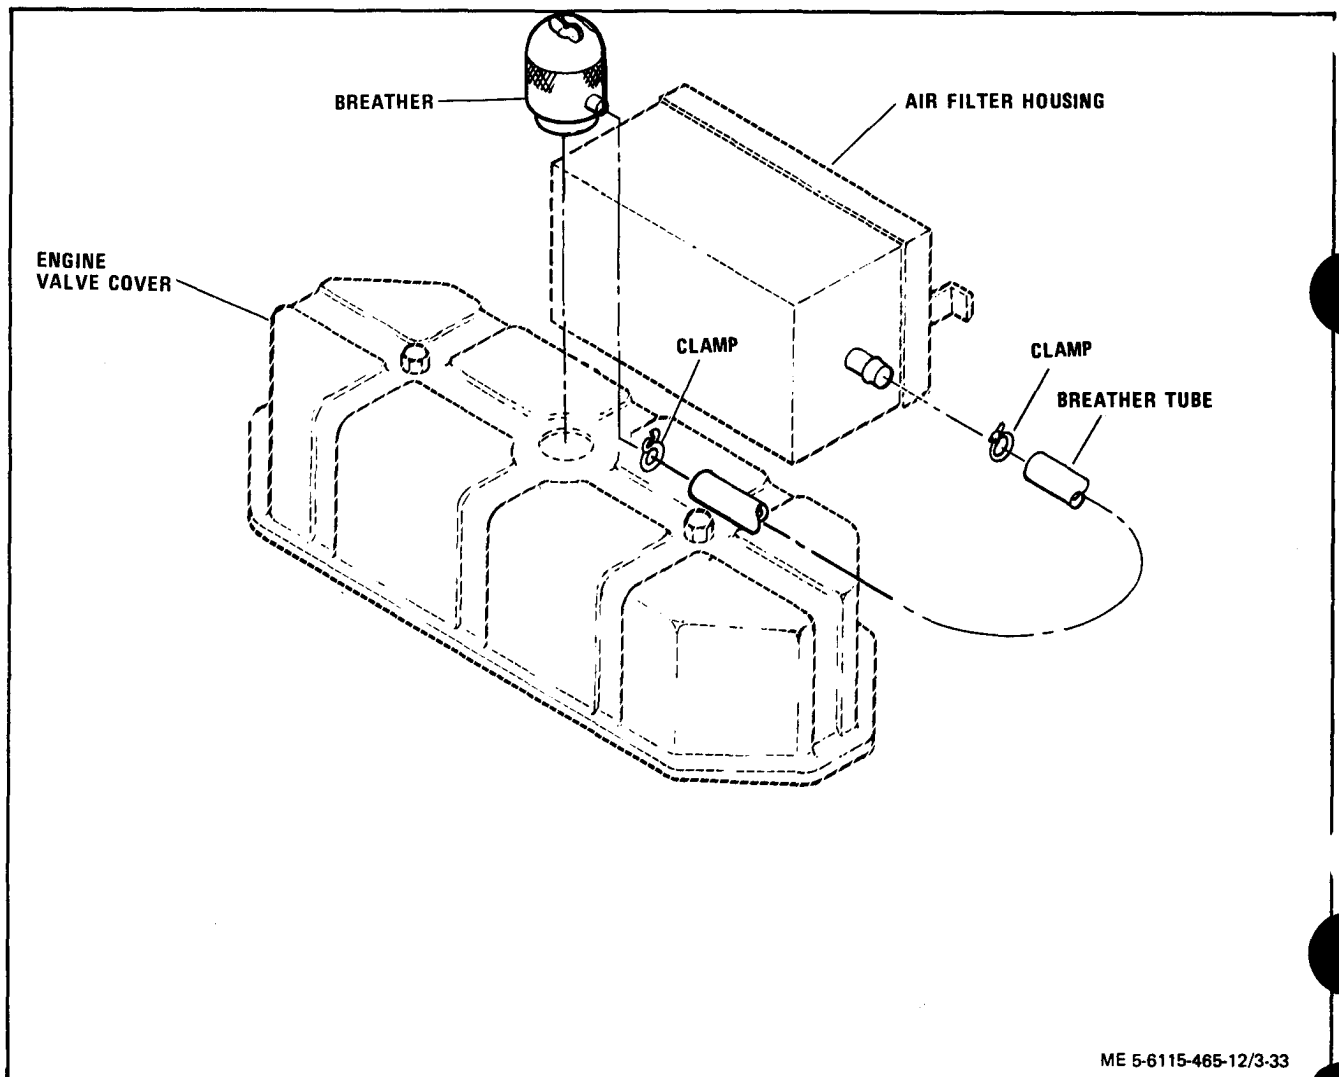

Figure 3-33. Breather and Breather Tube, Exploded View
(1) Remove clamps (figure 3-33) and breather tube.
(2) Loosen wing nut on breather, unscrew slotted stud and remove breather.